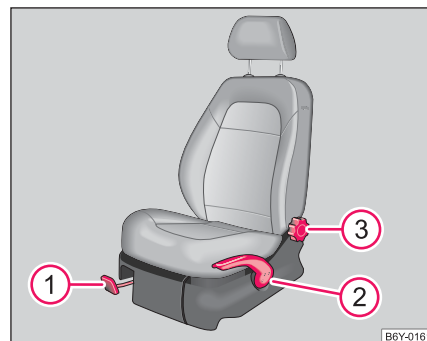

Fig. 43 Controls for adjusting the seat
- Pull the lever  $\Rightarrow$ fig. 43 up and push the seat into the desired position.